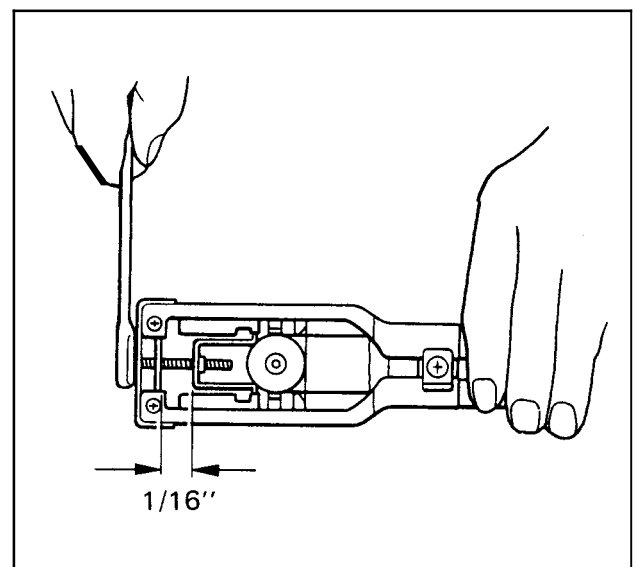

Fig. 10
11. With the provided wrench turn the tension-adjusting bolt clockwise leaving a gap between tension plates of approximately $1/16''$, or the thickness of a nickel. (Fig. 10)